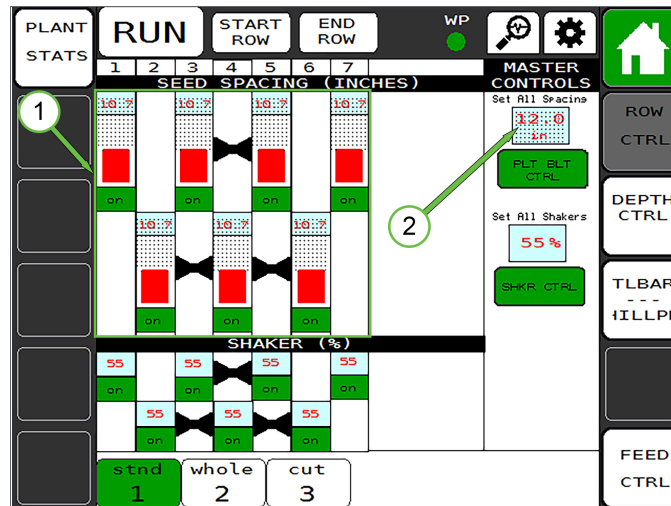

Figure 20
In Weight Control mode, (1) *SEED SPACING* settings for individual row units, as well as the master control (2) *Set All Spacing* setting, are calibrated automatically and cannot be adjusted manually. (see Figure 20)